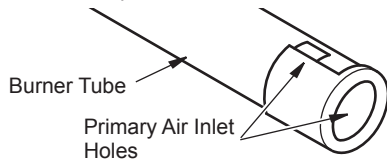

Figure 35 - Burner and Injector Holder
2. Inspect burner, pilot and primary air inlet holes on injector for dust and dirt (see Figure 35).
A yellow tip on the pilot flame indicates dust and dirt in the pilot assembly. There is a small pilot air inlet hole about 2" from where the pilot flame comes out of the pilot assembly (see Figure 35). With the unit off, lightly blow air through the air inlet hole. You may blow through a drinking straw if compressed air is not available.